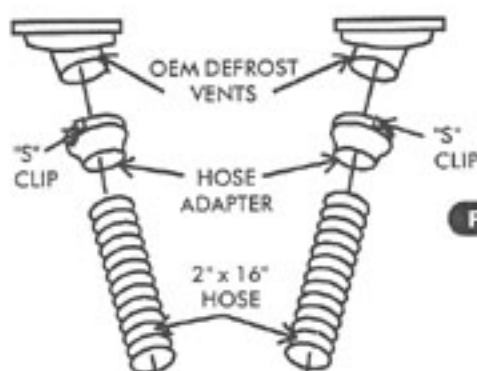

FIGURE 13A
- ATTACH DEFROST HOSE ADAPTERS TO OEM DEFROST VENTS BY PRESSING FIRMLY OVER "S"-CLIPS. SEE FIGURE 13A.